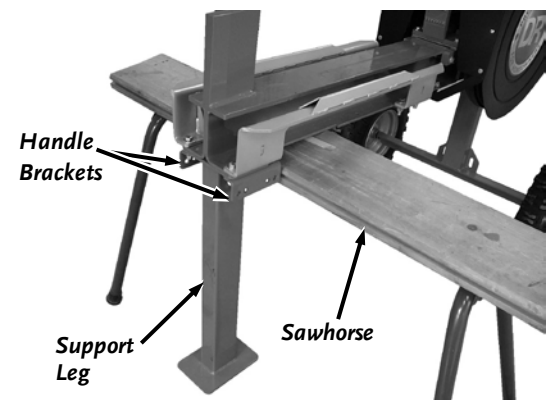

Figure 3
3. Install Wheel Chocks and place a Sawhorse under the front part of the Frame to lift the Supporting Leg off the ground (**Figure 3**).